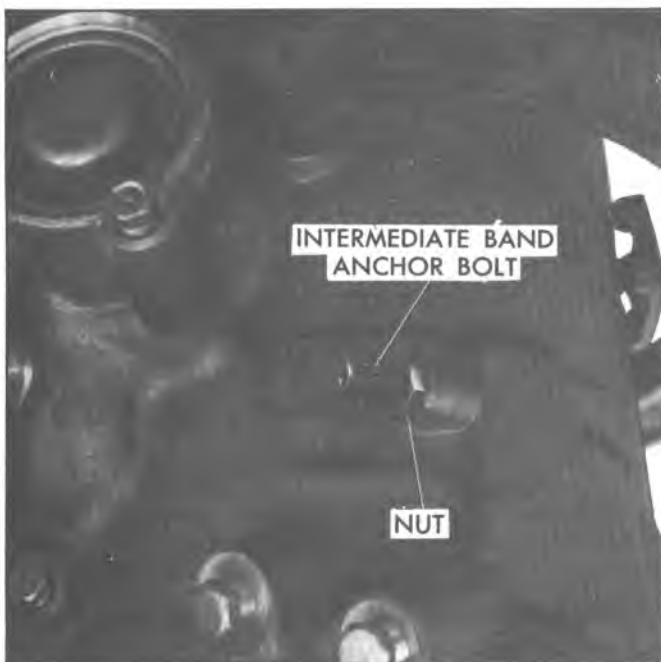

Fig. 27N--Intermediate Band Anchor Bolt
3. Loosen nut and intermediate band anchor bolt (Fig. 27N).